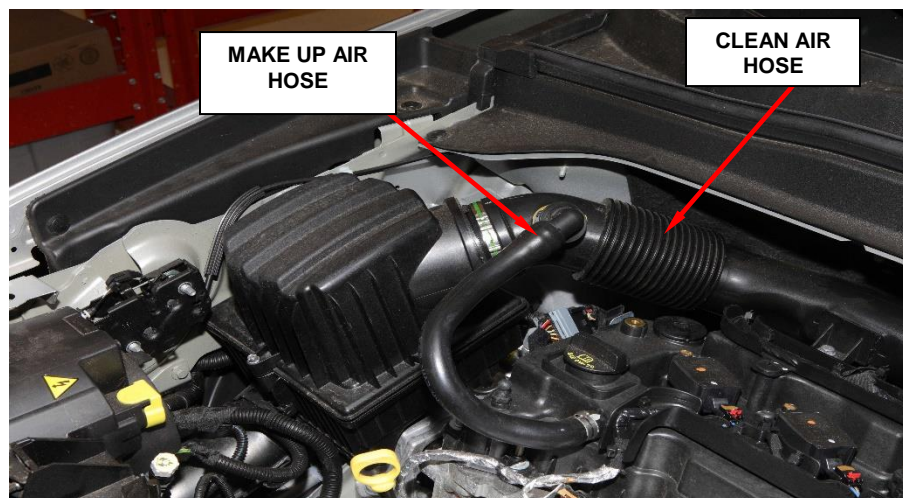

Figure 3 – Make up/ Clean air hose
7. Disconnect the make-up air hose from the clean air hose (Figure 3).
33. Reconnect the make-up air hose to the clean air hose (Figure 3).